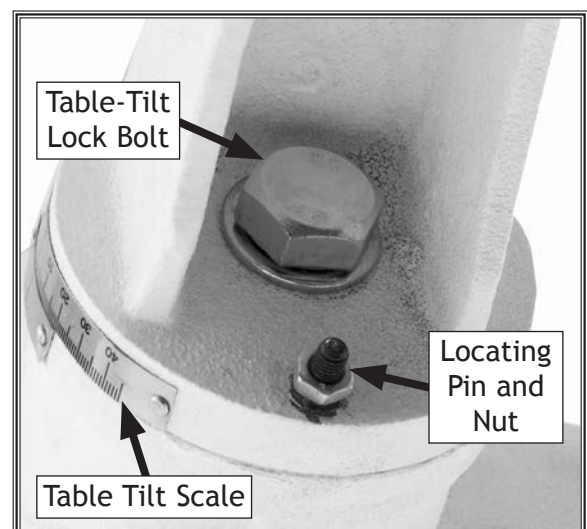

Figure 34. W1670 tilt mechanism and lock bolt (W1669 uses cap screw).
2. Loosen the lock bolt (**Figure 34**) using the included wrench and tilt the table (W1669) or the column support arm (W1670) to the desired angle.